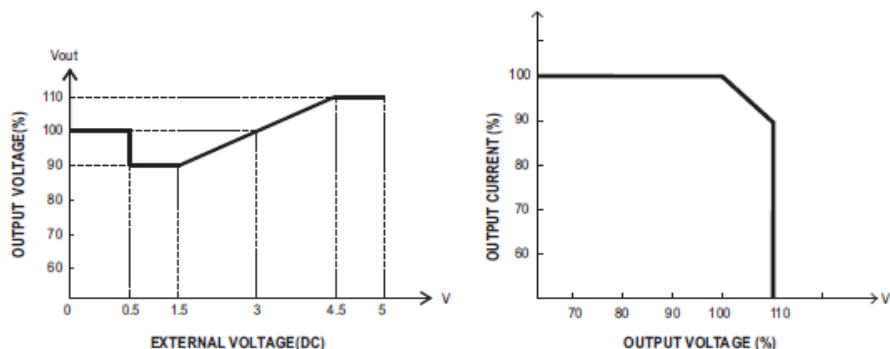

Fig. 3.2 Output voltage trimming
(2) Adjustment of output voltage is possible between 90~110%(Typ.) of the rated output which is shown in Fig. 3.2. Reducing output current is required when the output voltage is trimmed up.